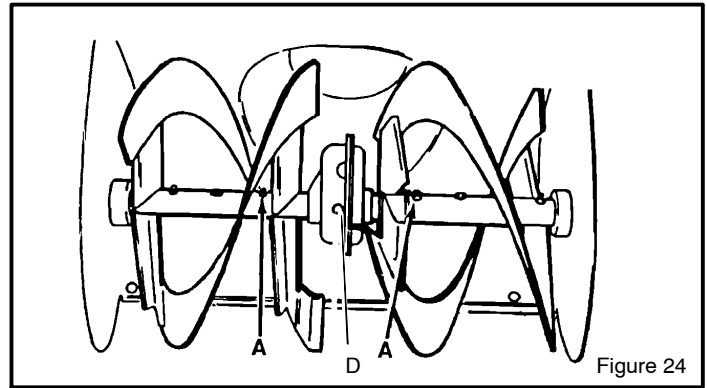
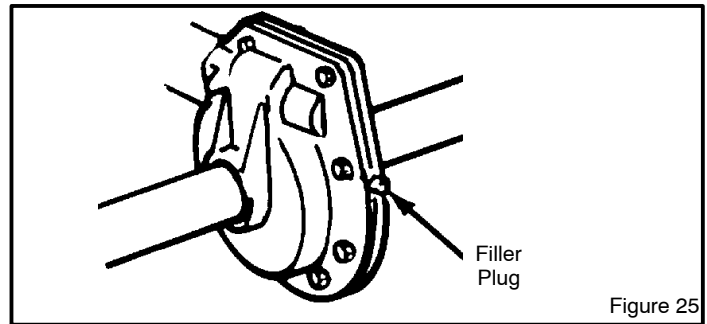

Figure 24
Figure 25
Remove filler plug D (Figure 24 and Figure 25), once a year. If grease is visible, do not add. If grease is not visible, use a piece of fine wire, like a dipstick to check if there is grease in the gear box. Mobilux EP1 and Shell Aldania EP1 are suitable equivalents.
1. **Auger Shaft** – Using a hand grease gun, lubricate the auger shaft zerk fittings (A) every ten (10) operating hours. Each time a shear bolt is replaced, the auger shaft MUST be greased (Figure 24). (See To Replace Auger Shear Bolt in the MAINTENANCE section).